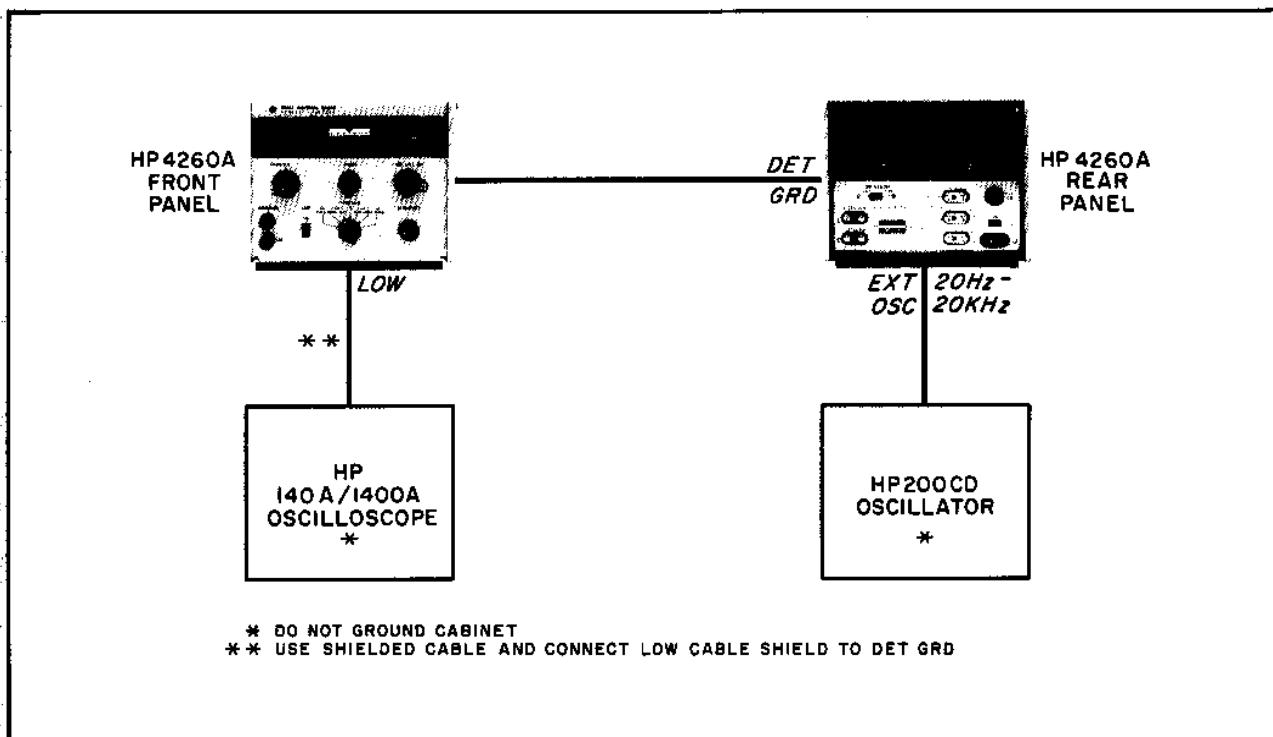

Figure 5-5. Test Setup for Adjustments
- 5-30. INTRODUCTION. The procedures in Paragraphs 5-31 through 5-38 outline checks and adjustments for the components in the bridge circuit. These include fixed 0.2  $\mu F$  capacitor C1, compensating capacitor C305, CRL resistor R3, trimmers C103, C104, C3, and accuracy of resistors in the RANGE switch. The test equipment setup is shown in Figure 5-5. These checks and adjustments should be performed in the order listed when a comprehensive overall instrument checkout is desired. Test equipment for these checks is listed in Table 5-6.
5-31. C1 CHECK. To check fixed bridge capacitor C1, connect the instruments as shown in Figure 5-5.
a. Connect the test setup as shown in Figure 5-5.
a. Connect test equipment setup as shown in Figure 5-5.
- a. Connect test equipment as shown in Figure 5-5.
- a. Connect test equipment setup as shown in Figure 5-5.
- a. Connect test setup as shown in Figure 5-5.